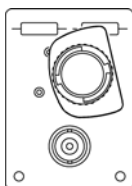

Figure 14 Signal to -Input
- 6 Carefully connect the input of the probe/attenuator to the test board in the position shown in Figure 14.